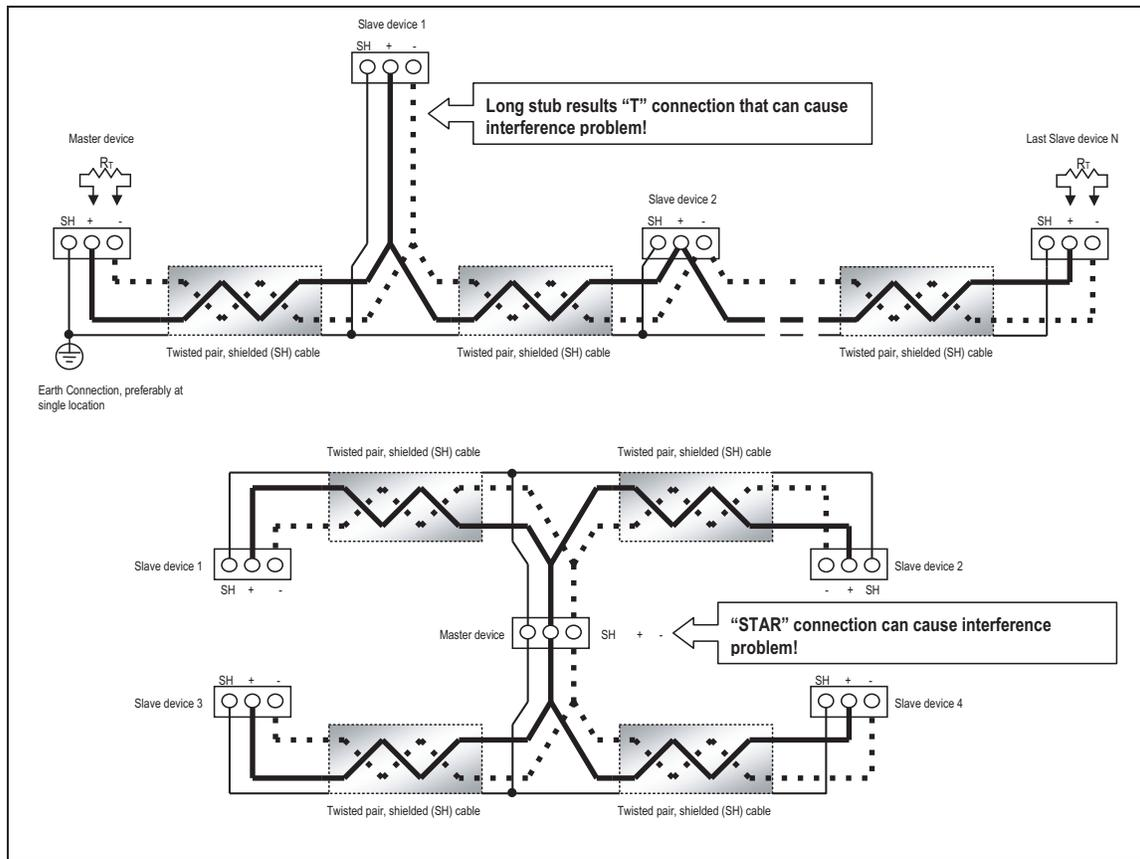

Figure 5.6: Incorrect "T" and "Star" Topologies
- Avoid both "Star" and "Tee" connections (see Figure 5.6).
The Unicom 2500 provides RS485/RS232 and Fiber Optic/RS232 conversion. In doing so it allows a Shark® 250 meter with either RS485 communication or the optional Fiber Optic communication card to communicate with a PC. See the *Unicom 2500 Installation and Operation Manual* for additional information. **You can order the Unicom 2500 and the recommended communication cable for it from EIG's webstore: www.electroind.com/store.** From the left side of the webpage, select Communication Products for the Unicom 2500 and Cables and Accessories for the RS485 4-wire to 2-wire cable. Figure 5.6 illustrates the Unicom 2500 connections for RS485 and Fiber Optics.